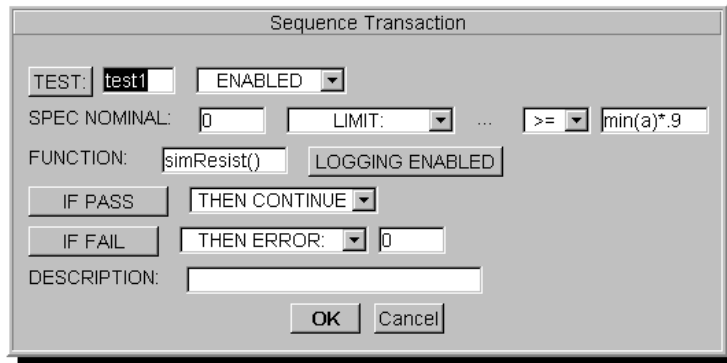

Figure 14-15. Improved test1 Transaction
- In the `Sequencer` named `Test Bounds`, the first transaction (`test1`) calls the `UserFunction` `simResist` with the expression `simResist()`, as Figure 14-15. shows.